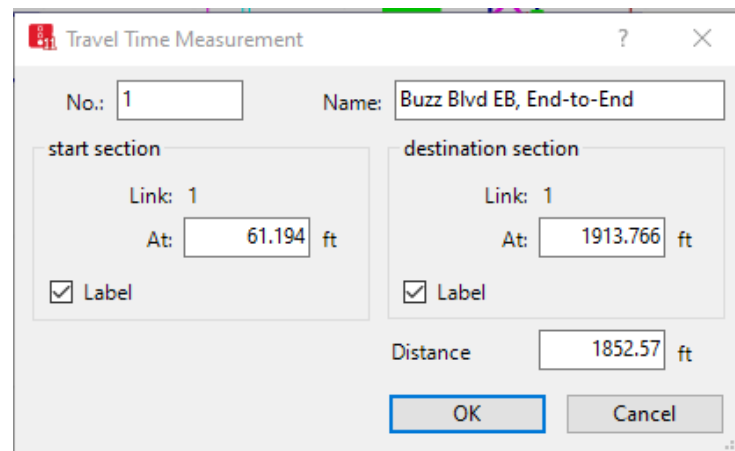

Figure 34: Travel Time Measurement pop-up window
- step v. The *Travel Time Measurement* pop-up window should appear. Add a name for your travel time segment (see Figure 34).